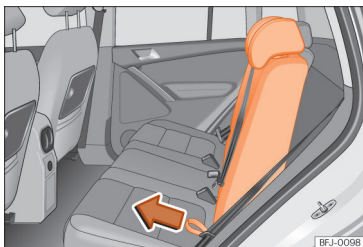

Fig. 93 Folding down and lifting the rear seat backrest
- Pull the cord »» Fig. 93 forward in the direction of the arrow while holding the seat backrest and move it forward slowly »» ⚠.